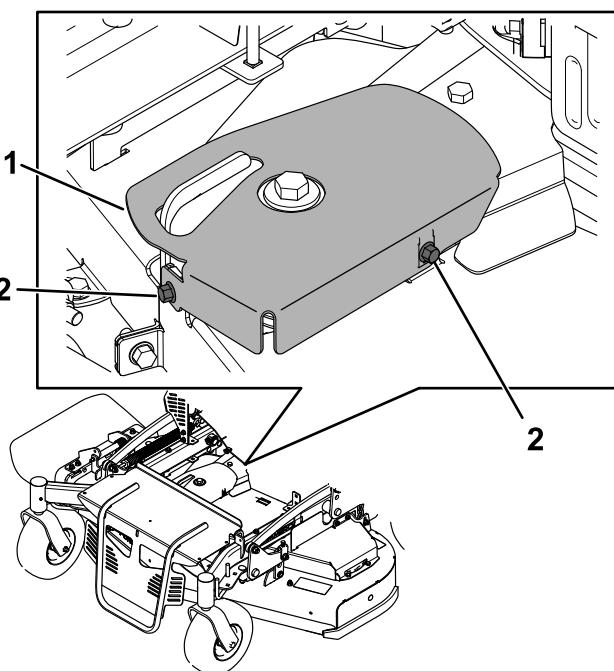

Figure 37
4. Install the idler cover (Figure 37).
2. Remove the idler cover (Figure 37).